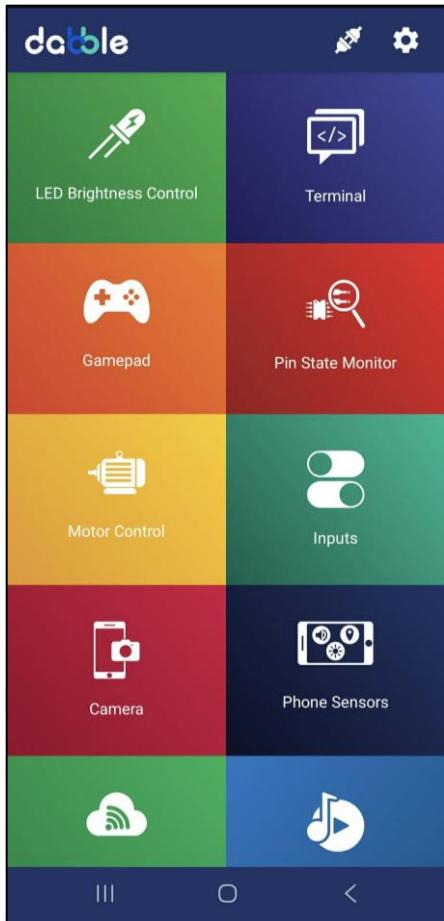
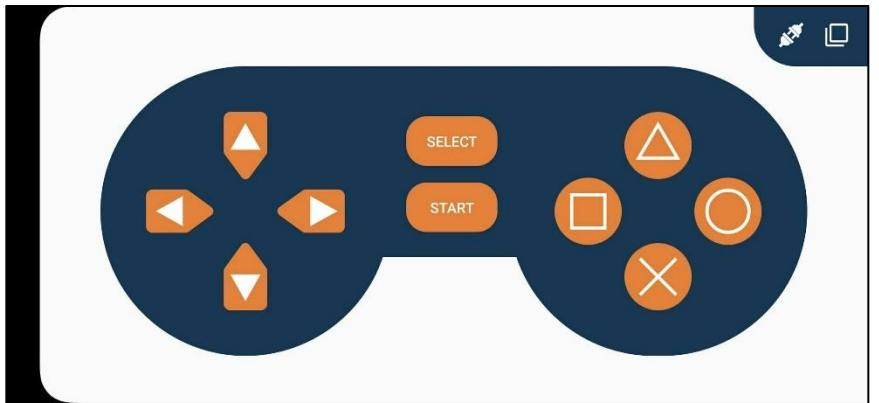
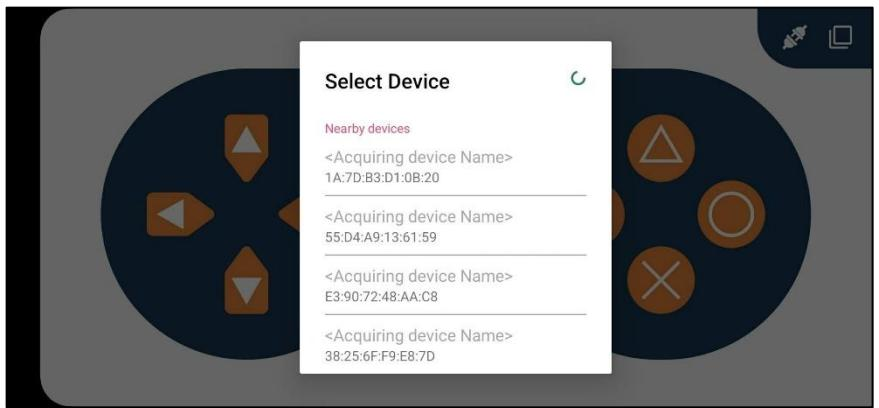

FIGURE 4
FIGURE 4.1
FIGURE 4.2
**Step 4:** Open Dabble mobile application then select “Gamepad” as shown in Figure 4. You should see something like in Figure 4.1. Then press the connect button and pair with your ESP32 as shown in Figure 4.2.